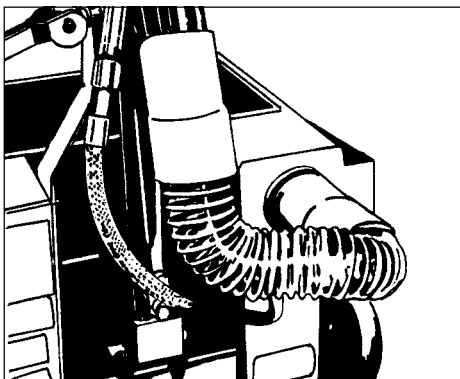

Figure 9
15. Install the vacuum hose. See figure 9.